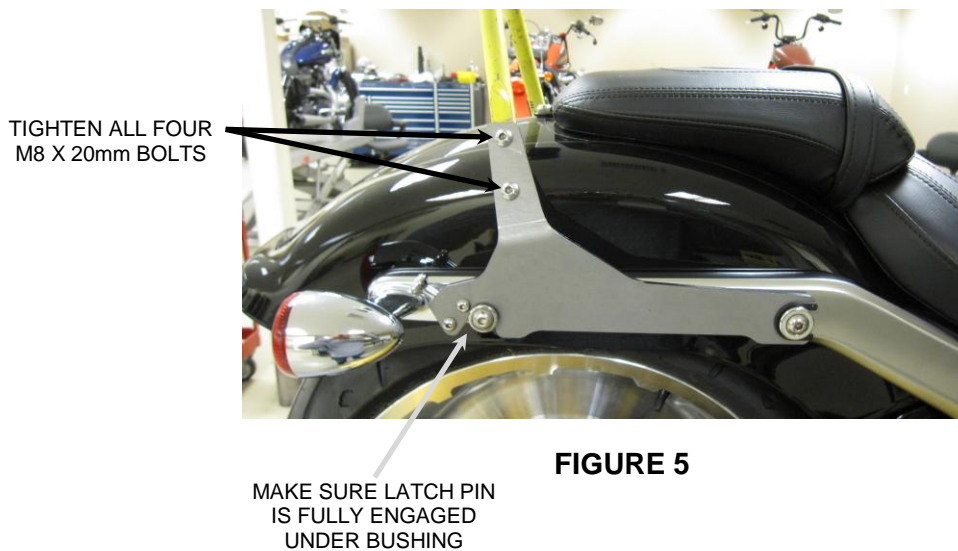

FIGURE 5
15. Pull backward on both detachable latch knobs and then push downward on the backrest to allow the backrest to sit completely on the rear mounting bushings. Then release the detachable latch knob to fully engage the latch pin underneath the mounting kit bushing. See **FIGURE 5**.
16. Always check to make sure both detachable latch pins are fully engaged on the bottom of the mounting kit bushing. Failure to fully engage the detachable latch pin could cause the backrest to come loose while riding. See **FIGURE 5**.
17. Pull backward on the top of the sissy bar and then tighten all four M8 X 20mm bolts. See **FIGURE 5**.